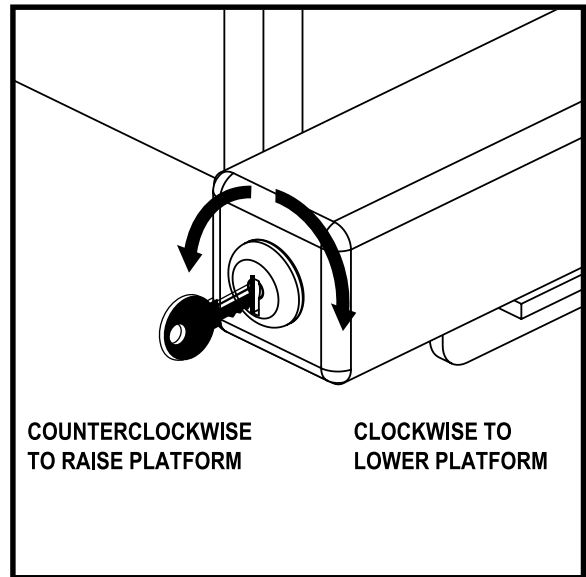

Figure 6. Key Switch Operation
2. Turn and hold the key clockwise to lower the lift platform. See figure 6. Release the key as soon as the lift platform touches the ground.